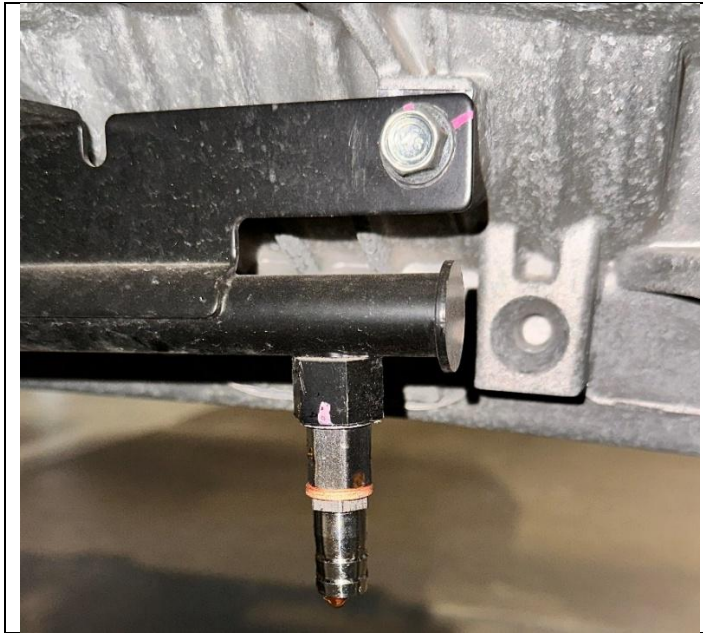

Figure 25
56. Thread the drain fitting into the coolant drain. (See Figure 25.) Using two (2) wrenches (one wrench holding the pipe and the other wrench turning the plug) hand tighten the drain fitting.